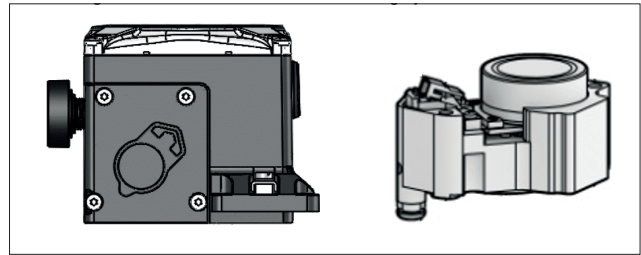

Fig. 78. NDX1510\_ prestage location.
- Loosen the prestage cover screws and remove the prestage cover. (Fig. 78)
- Unplug the prestage wire connector from the prestage (Fig. 78)
- Loosen the screws holding the prestage in place. (Fig. 78)